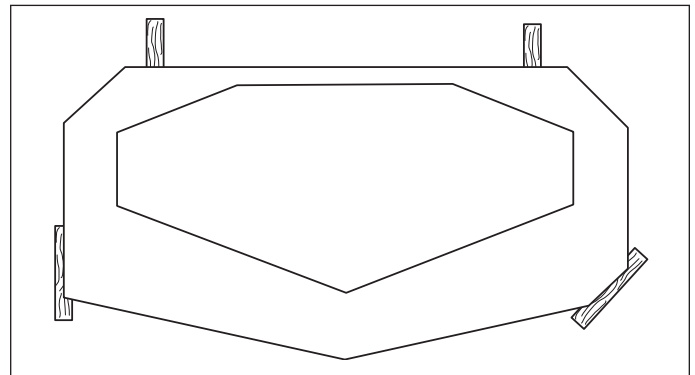

Figure 34. 2 x 4 Locations
6. Place 2 x 4 blocks under each corner of the mower deck with the 3-1/2" sides being vertical. Place a 1/4" (0,64 cm) thick spacer on top of the rear 2 x 4 blocks. See Figure 34.